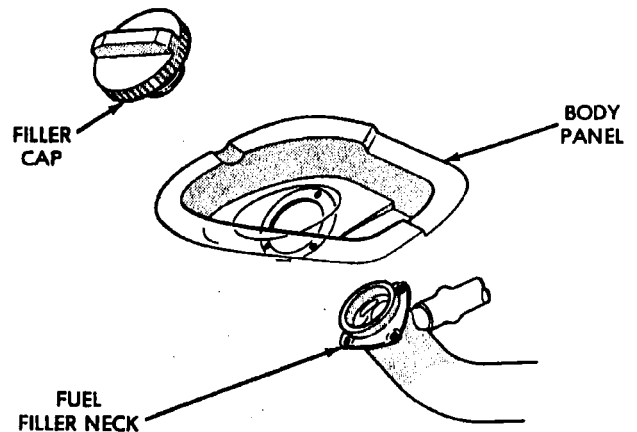

Figure 18
7. Remove the fuel filler neck mounting screws (Figure 18).